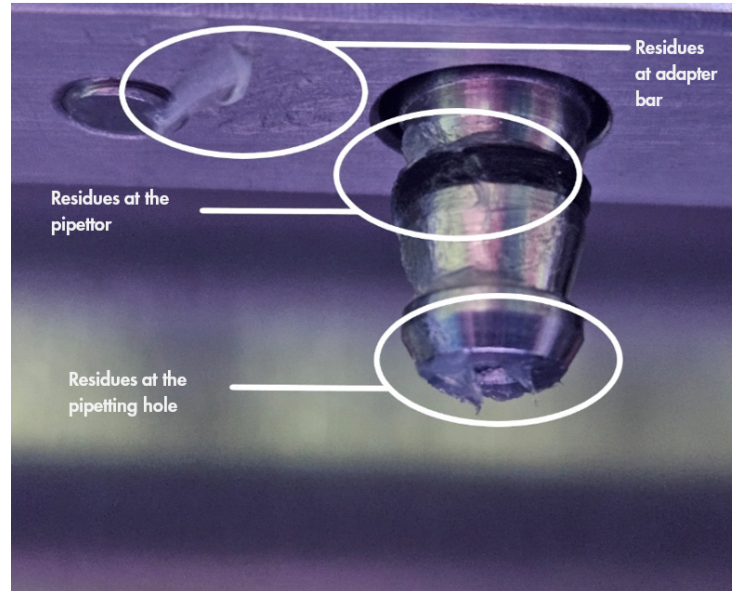

Figure 187. Example of an overgreased tip adapter. All marked spots should be checked and all visible grease residues should be removed.
8. Make sure that there is no grease present on parts other than the D-rings, especially on the bar on top and the opening of the pipettors (see Figure 187).